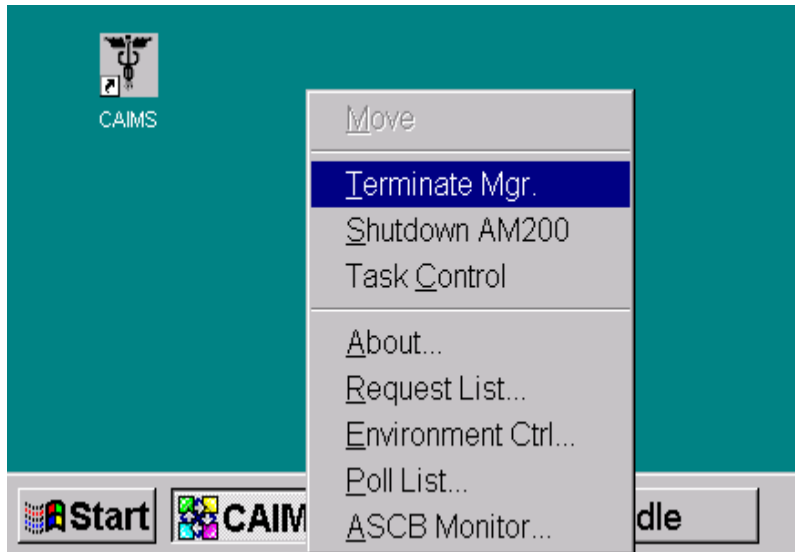

Figure 19 "CAIMS DLL..." - "Terminate Manager" Selection
2. On the task bar, select "CAIMS DLL..." - "Terminate Manager". See Figure 19.